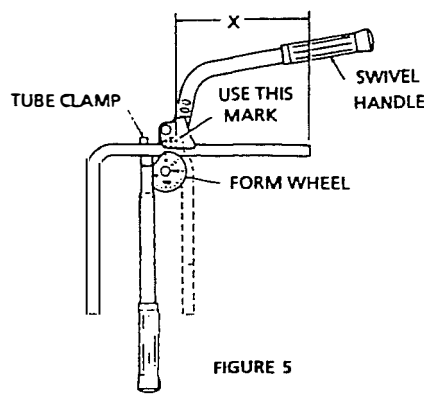

FIGURE 5
4. With a steady motion, pull the swivel handle around until the "0" mark on the swivel handle is directly opposite the 90° mark on the form wheel. (See Fig. 5.)
4. With a steady motion, pull the swivel handle around until the "0" mark is directly opposite the 45° mark on the form wheel. (See Fig. 5.)